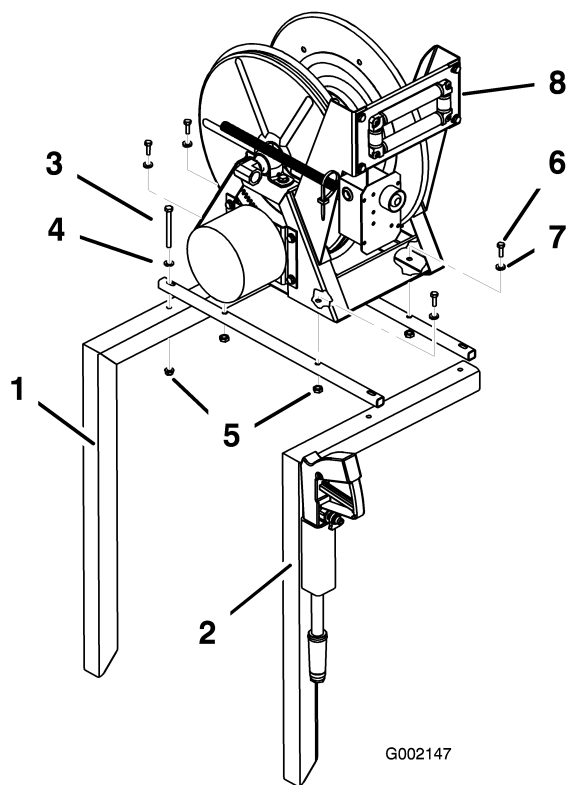

Figure 5
5. Install the 2 hose reel mounting tubes to the top of the hose reel frames (Figure 5) using 4 bolts (5/16 x 3-1/4 inch), 4 washers (11/16 inch outside dia), and 4 flange nuts (5/16 inch). Do not fully tighten the fasteners to allow for later adjustment.
6. Install the hose reel assembly onto the hose reel mounting tubes (Figure 5) using 4 flange-head bolts (5/16 x 1-1/2 inches), 4 washers (7/8 inch outside dia), and 4 flange nuts (5/16 inch). Do not fully tighten the fasteners to allow for later adjustment.